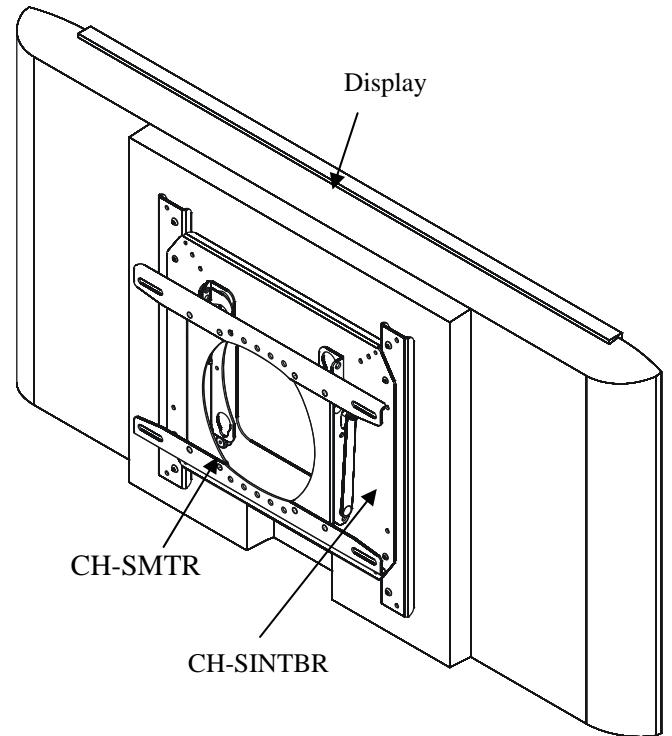

Figure 5. Mount Plasma Tilt Bracket to Wall
1. With the aid of another person, lift the display up to the mount (10) on the wall, aligning mounting buttons on the CH-SINTBR with the teardrop slots on the mount, and lower the display firmly into place (see Figure 5).